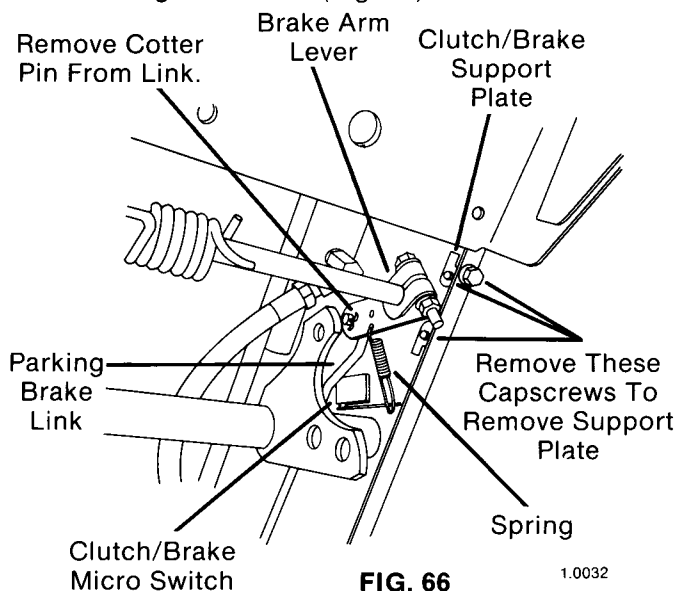

FIG. 66
- Remove cotter pin from parking brake link at brake arm lever and detach link from lever. Disconnect clutch/brake pedal micro switch spring from brake arm lever also. (Fig. 66).
- Remove two thread forming screws holding clutch/brake support plate to left inside of main frame along with one capscrew and flange nut on lip of left main frame. Remove support plate. (Fig. 66)